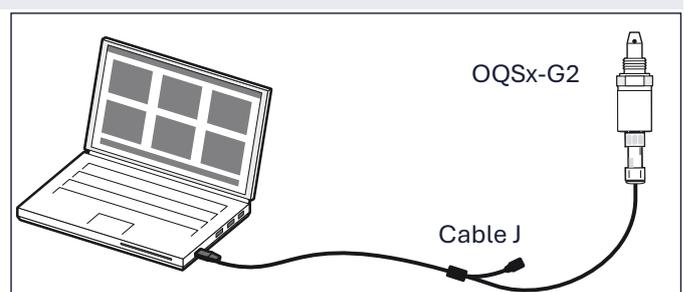

Fig. 2-1 Setting up a sensor for configuration
- 2) Connect the OQSx-G2 to your computer using the configuration cable (**Cable J**) as shown in Fig. 2-1.